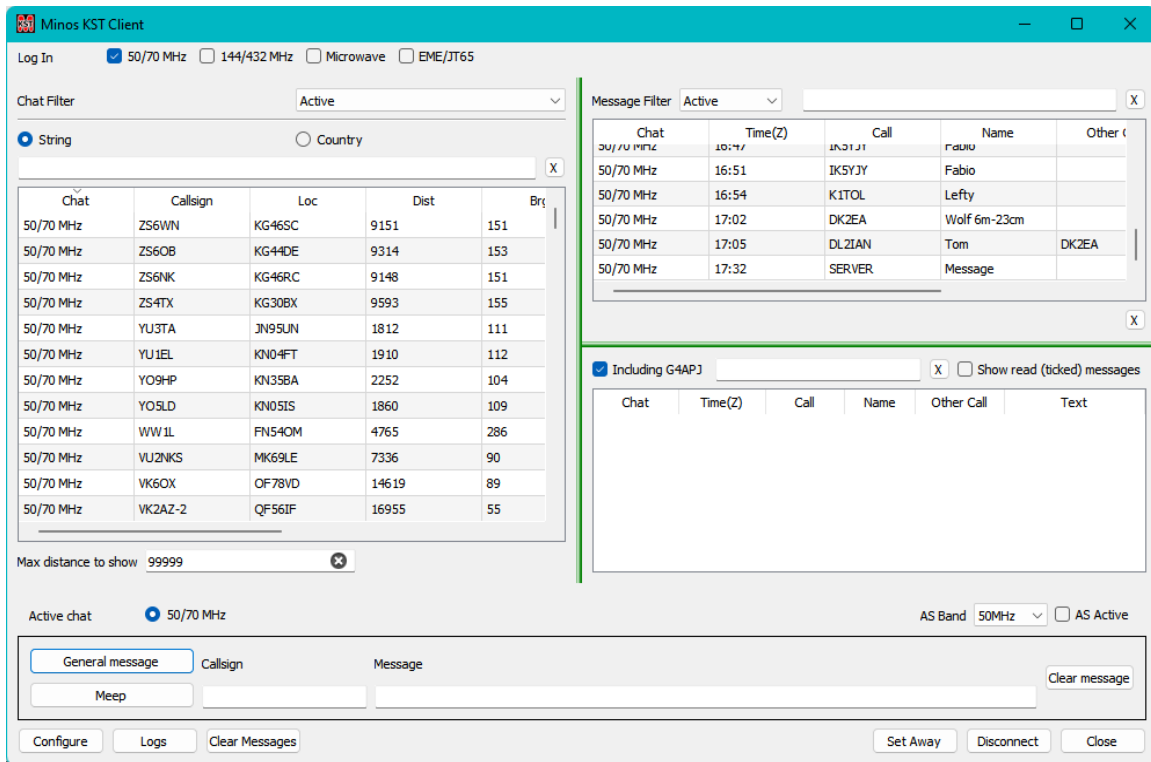
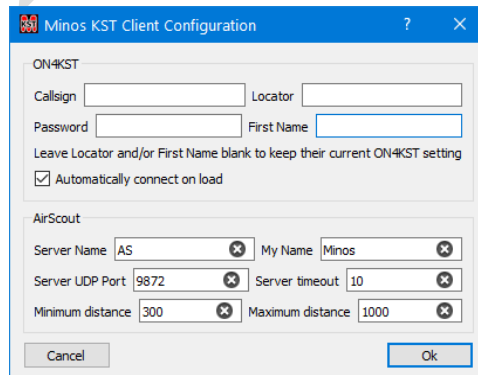

Figure 181 – KST Startup
Figure 182 – KST Client configuration
“Configure” – invokes the Configuration panel (Figure 182) which then requires:
- **Configure** – invokes the Configuration panel (Figure 182) as described above.
If the “**AS Active**” box is ticked (just above the ‘Clear Message’ button on the bottom right of Figure 181) then AirScout integration is started, subject to the requisite configuration information having been supplied (see Figure 182):